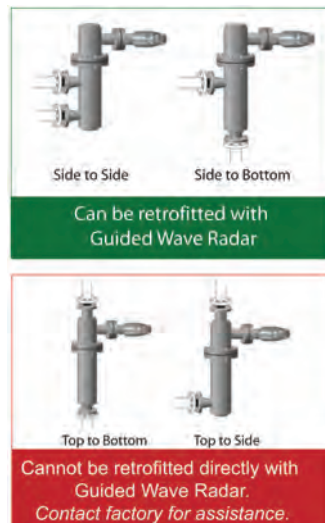

Figure 12.2.1: Displacer chamber mounting styles
2. Check displacer chamber mounting style with the diagrams shown in Figure 12.2.1.